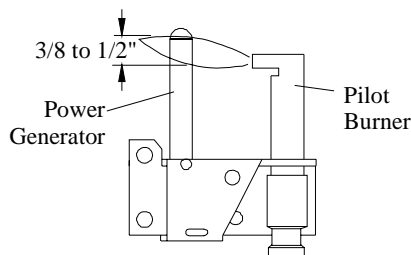

Figure 25a. Pilot Burner used on the EP28-2LB, EP28-4LB, and EP28-F2 models.
1. Determine which pilot is installed in the fireplace based on figures 25a and 25b.
3. Adjust pilot key to provide properly sized flame. (See figure 25a or 25b).